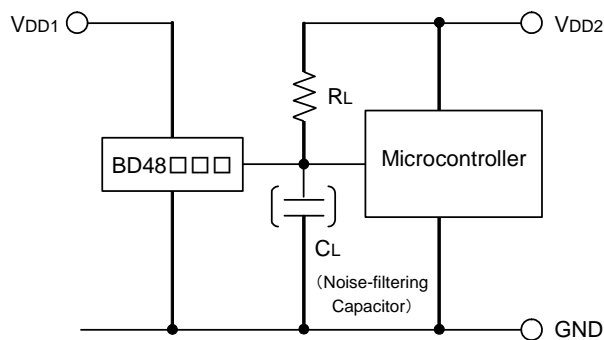

Fig.15 Open Collector Output Type
Use the open drain output type (BD48□□G/FVE) attached a load resistance (RL) between the output and VDD2. (As shown Fig.15)